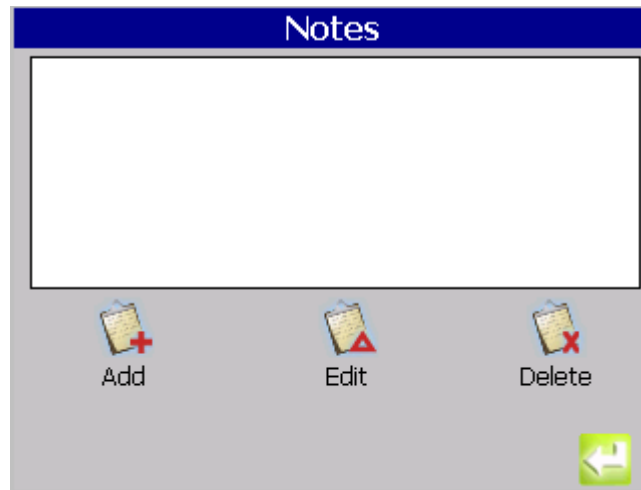

Fig 4-3 : Notes Tab
- 1) Touch the upper-left hand corner of the main screen to invoke the **Notes** screen, shown in Figure 4-3.